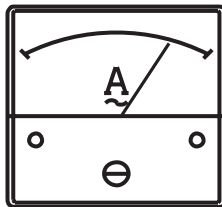

Figure 43. Ammeter (Load)
16. Observe the generator's ammeter (Figure 43) and verify it reads the anticipated amount of current with respect to the load. The ammeter will only display a current reading if a load is in use.